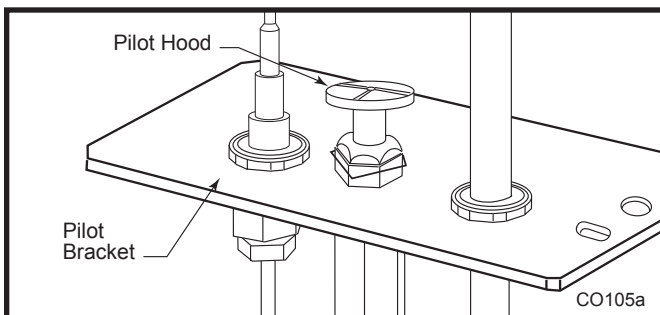

Fig. 67 Remove pilot hood.
- Remove pilot hood by lifting up. (Fig. 67) Do not remove snap ring to remove pilot hood. **NOTE:** It is not necessary to remove the pilot tube for conversion.